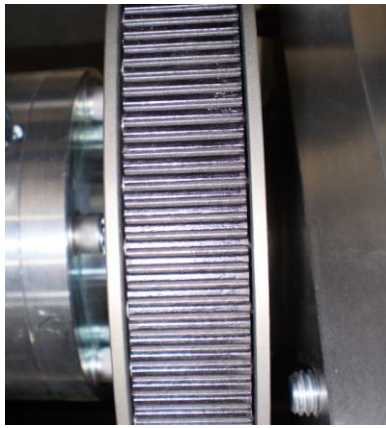

Figure 12
- Rotate rear sprocket several times by hand to register belt on sprocket. The belt should run in the center of the rear sprocket and approximately 1/8" from inside edge of the front counter-sprocket. Make small adjustments if needed and recheck alignment. Figure 12